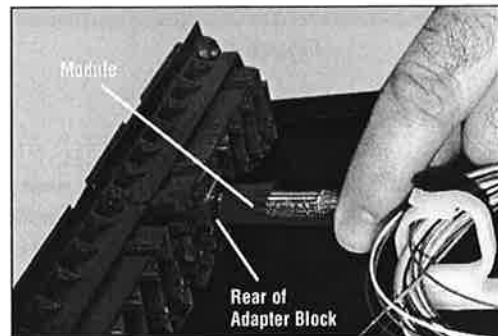

Figure 6
2. Remove the module from the front opening of the Adapter Block and insert it into the appropriate rear opening of the Adapter Block until it locks in place (see Figure 6). Organize the fibers as necessary using the fiber management rings.